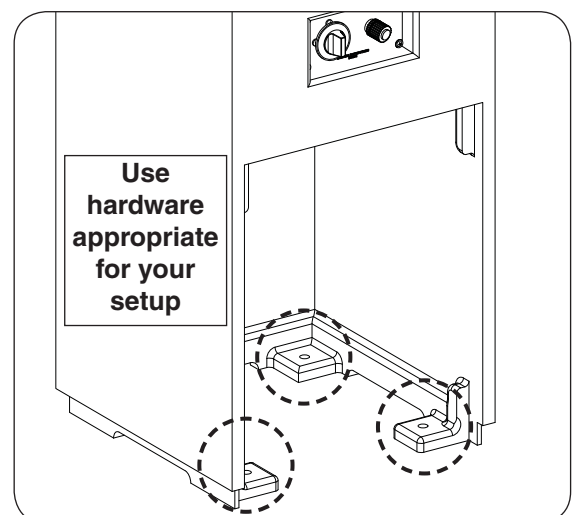

Fig. 19-3 Mount base to floor
2. Using appropriate mounting hardware for the floor material/construction, secure the lantern base into the floor. The interior of the base has four $\frac{1}{2}$ " holes that will allow for the base to be fastened to the floor. See Fig. 19-3.